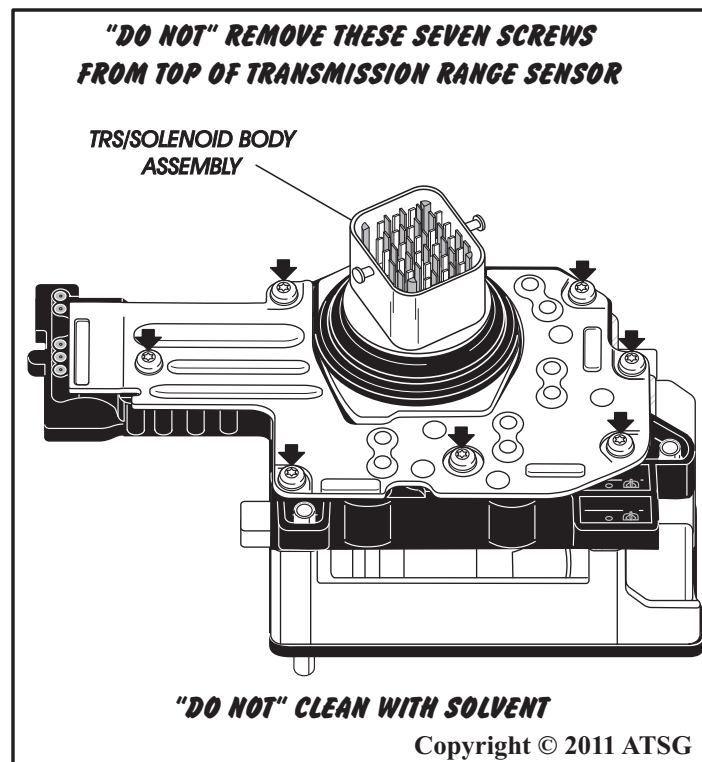

Figure 121
2. **Do Not** remove the seven screws from the top of the TRS/Solenoid Body (See Figure 121).